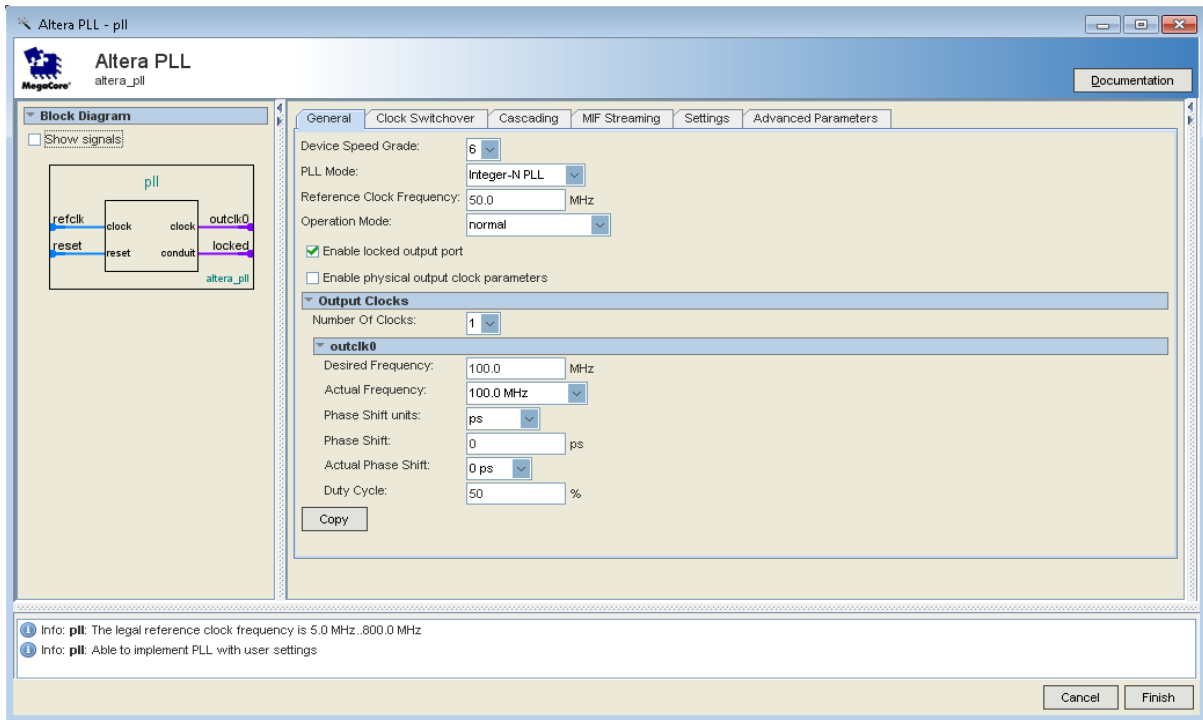

Figure 3-10 Selections of Altera PLL windows
5. In the Altera PLL windows, make the following selections (see **Figure 3-10**).